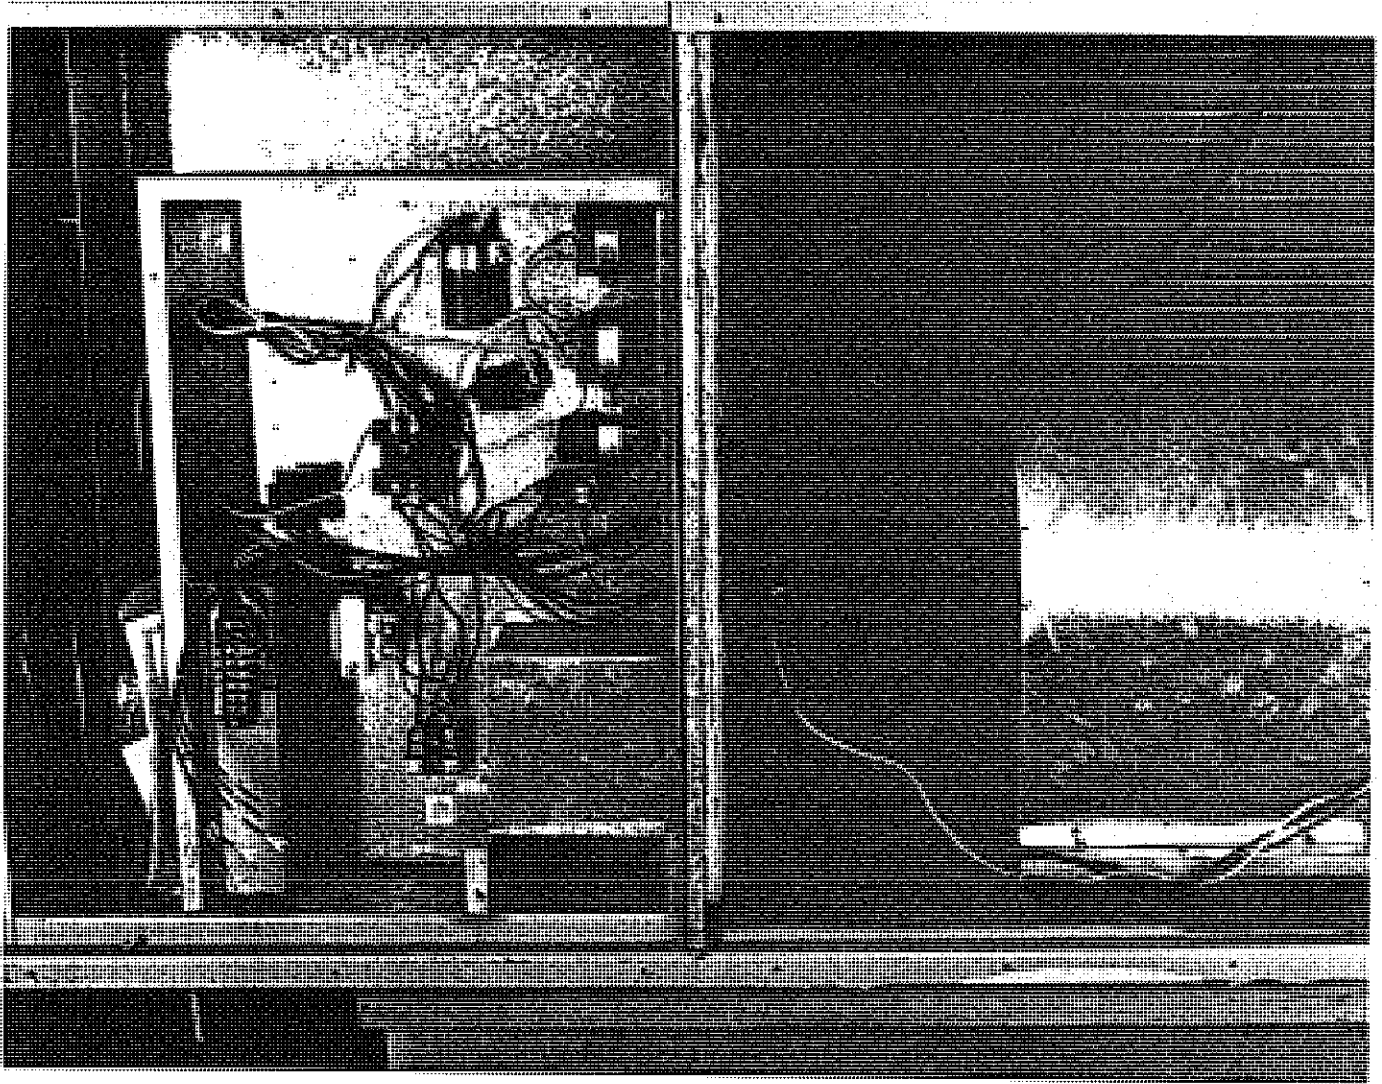

Figure 4
6. Route the wiring harness over the top filter rack subassembly through the blower compartment, through the existing 7/8" diameter snap bushing located in the side of the unit control box, through the control box, through the snap bushing and into the low voltage terminal block section. Attach wires to the terminal block as per wiring wiagram. (Figure 4)